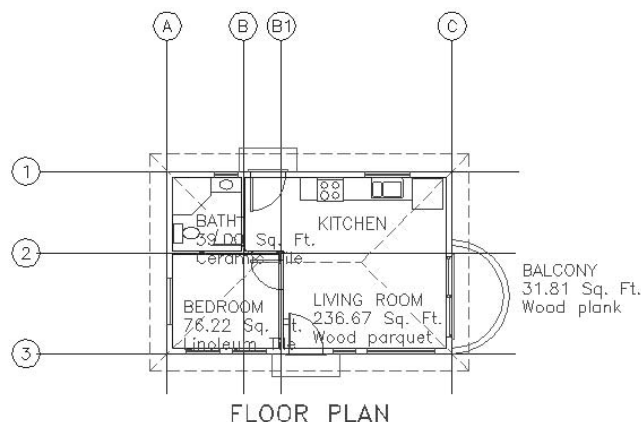

FIGURE B.14: The floor plan with all attributes displayed
1. Choose View > Display > Attribute Display > On. The invisible attributes are displayed with the room labels (see Figure B.14).